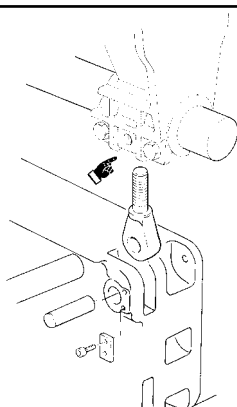

fig. 30
- Generally the DST/N trolleys and always the DST/S trolleys, are delivered pre-assembled on the respective DRH hoist with an internal space between the wheels (L) already set for the girder on which the trolley/hoist, according to the contractual agreements, is to be installed.
- To allow the possibility of modifying the internal space of the wheels for different and/or successive settings, the relative heights of reference (A) and (B) for DST/N trolleys are shown below for the different girders.
- The correct clamping of the trolley brackets on the bars is ensured by at least two bolts. The third bolt cannot be installed in some cases because of interference with the suspension of the hoist (fig. 30).